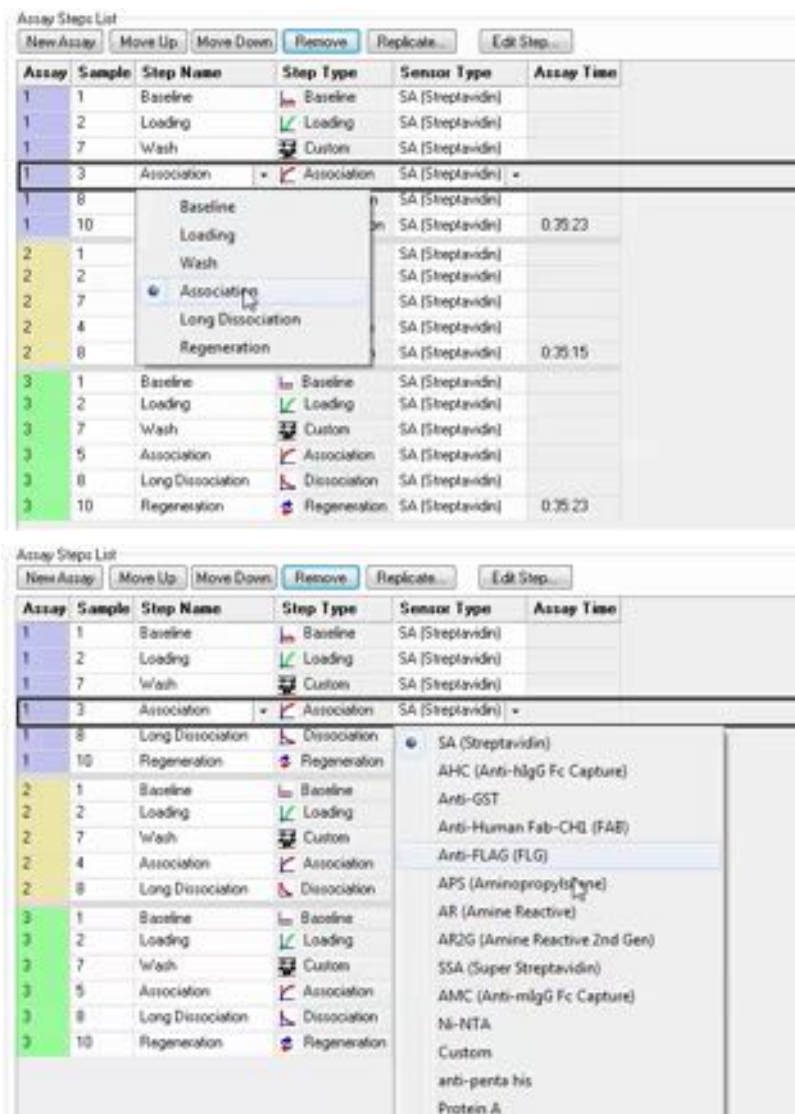

Figure 8-41: Editing an Assay Step Name (top) or Sensor Type (bottom) in the Assay Steps List
- To change the step type, click the **Step Name** arrow (▼) and select a step name from the drop-down list (Figure 8-41, top).
- To change the biosensor type, click the **Sensor Type** arrow (▼) for any step in the assay and select a sensor type from the drop-down list (Figure 8-41, bottom). The biosensor type will automatically update for every assay step.